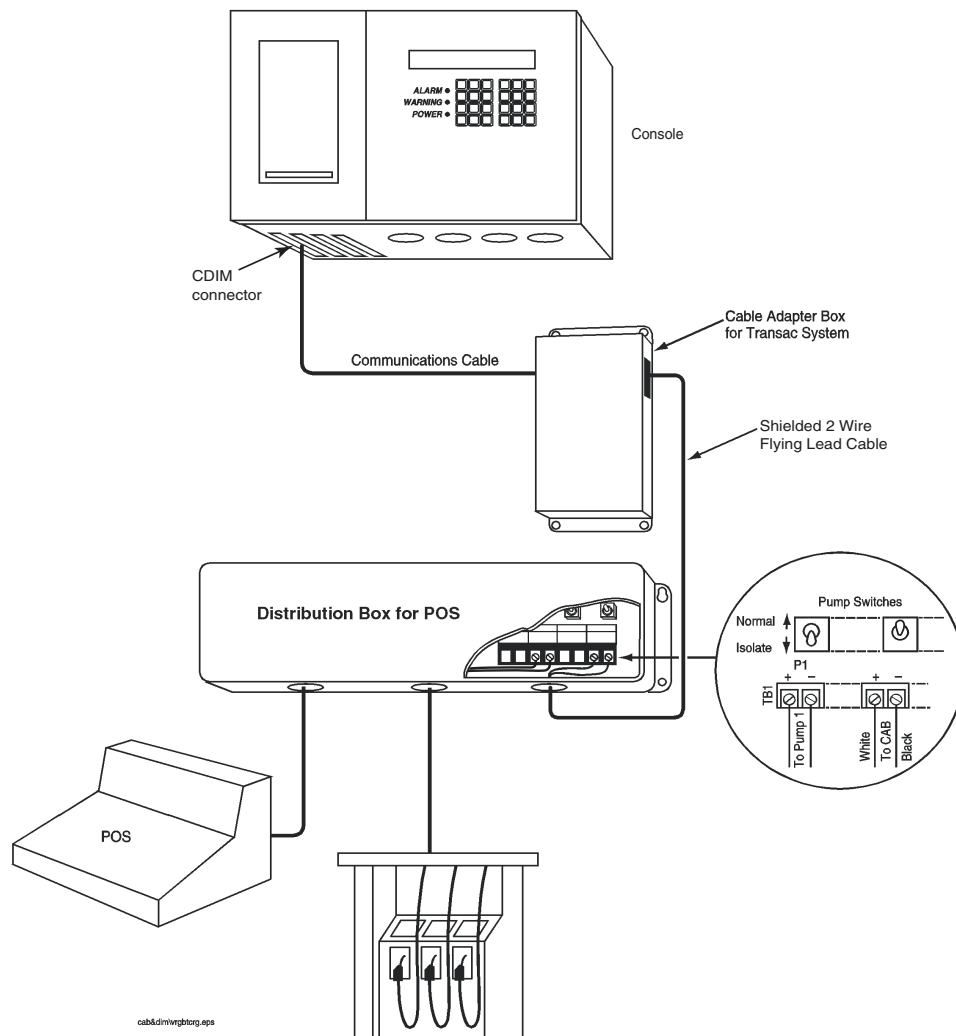

Figure 5. Transac Series Current Loop Interface
The Cable Adapter Box (CAB) should be placed as close as possible (within 6 feet) to the dispenser distribution box (see Figure 5 on page 11 and Figure 6 on page 15).
1. Refer to Figure 5 on page 11 and identify an open dispenser connection point inside the distribution box. A Cable Adapter Box (CAB) must be wired into the current loop.